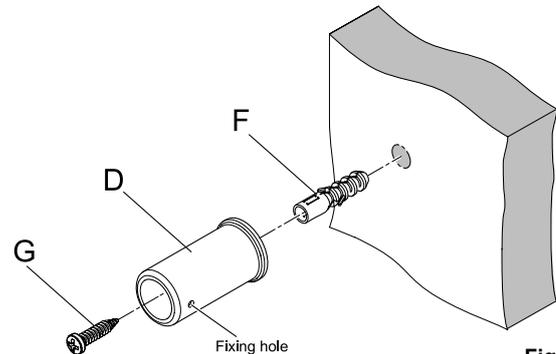

Fig. 4
Drill and plug (F) the wall to suit. Fix the outer wall bracket sleeve (D) to the wall using the screws provided (G). Ensure to align the bracket so that the fixing hole is accessible once the towel rail is fitted - see Fig. 4.